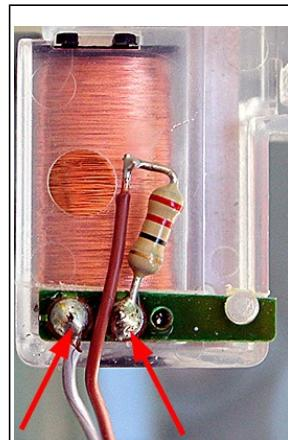

Fig. 9: Resistor and wires.
Fig. 9 shows the finished modification before bending the wires. Notice how the wire and resistor lead are soldered on the *right* side of the motor terminals (red arrows), and the long wire runs *between* the terminals. This positions the wires correctly to exit the movement case through a slot you will cut next. **Important!** Be sure the resistor lies flat against the housing, and it and the long wire are clear of the large hole in the housing.
- Place the modified movement into the case, with the shaft passing through the brass bushing. Ensure that the wires rest in the slot you cut into the case flange (Fig. 17). Also ensure that the wires don't hold the housing too high. There is a conical protrusion molded into the case (visible at the end of the file in Fig. 17). This protrusion should fit into the hole in the movement housing above the motor coil, seen in **Fig. 9**.